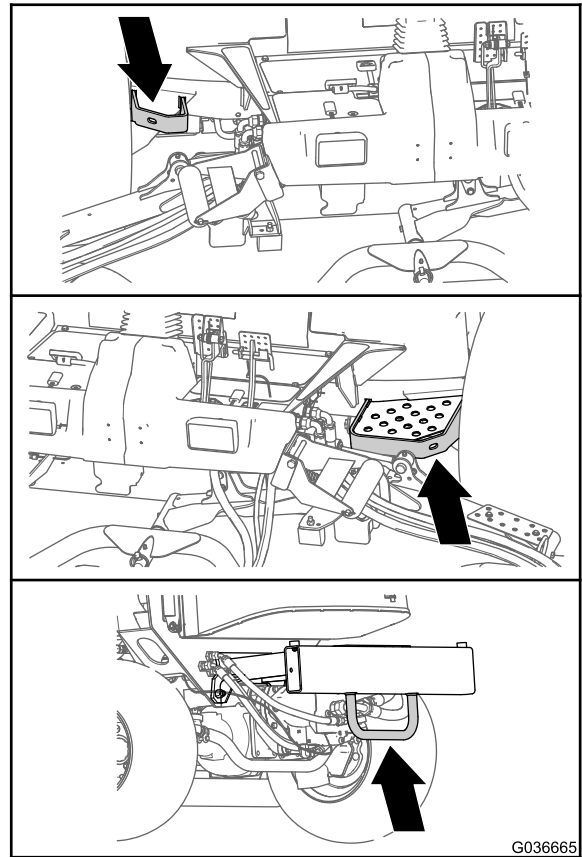

Figure 38
- On each side of the frame by the operator's platform (Figure 38)
- On the rear bumper (Figure 38)